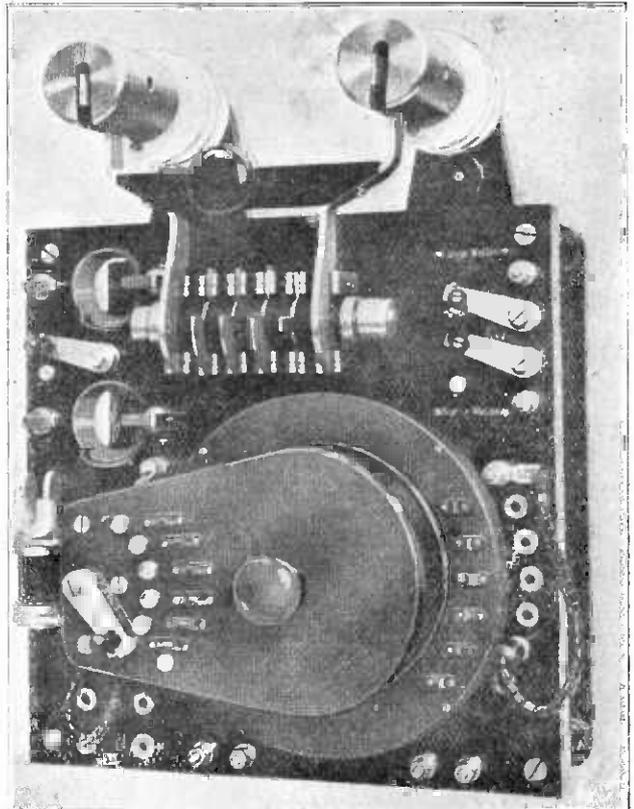

Fig. 15. A coupler.
(G) A particularly neat loose coupler is illustrated in Fig. 15. The lower coil has a bank winding which is tapped. Connection is made with the plug and sockets to be seen on the right-hand side of the illustration. The secondary coil is pivoted, and the coupling is varied by swinging this coil outwards. The knob is provided for this purpose. It will be noticed the coil has a stud switch fitted so that the inductance of the coil in circuit is easily changed.